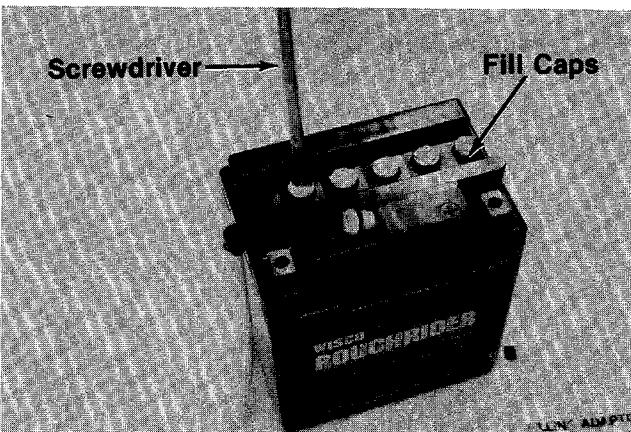

FIGURE 4.
- 4. Remove the six fill caps from the top of the battery with a screwdriver. Care should be taken not to damage the fill caps. See figure 4.